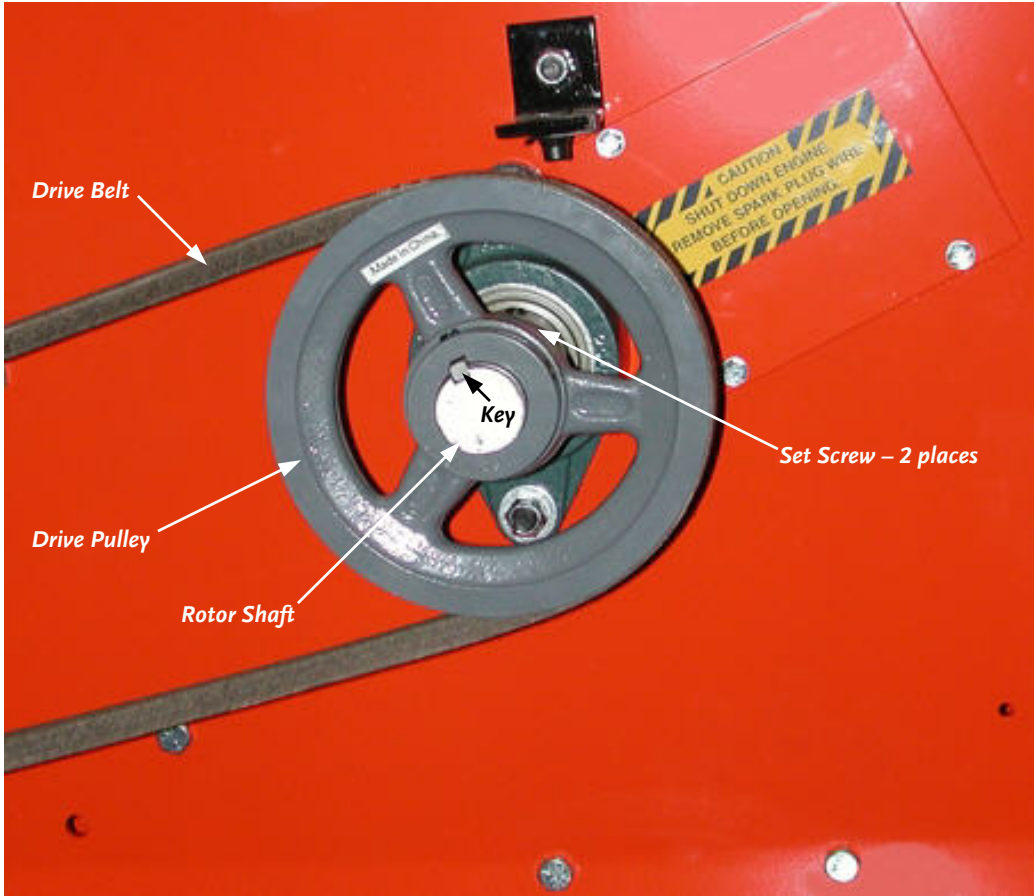

Figure 11
- a) Remove the two (2) Set Screws in the Drive Pulley Hub with a $5/32$ " Allen Wrench (**Figure 11** on page 30) and set them aside.
- b) Using a straightedge, align the Clutch and Drive Pulley as shown in **Figure 10** by moving the Drive Pulley in or out on the Rotor Shaft (**Figure 11** on page 30). **Do not make the adjustment by moving the Clutch on the Engine Shaft.**